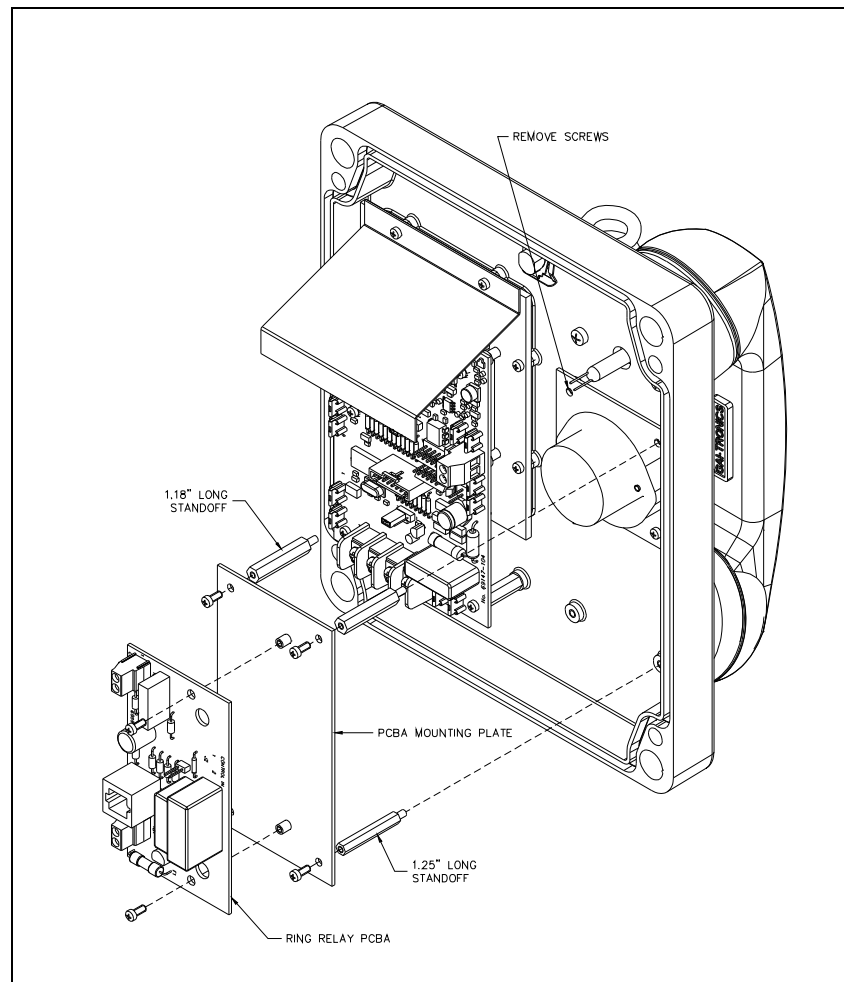

Figure 6. Model 246-001 and 256-001 Exploded View
3. Remove the two #4-40 screws installed above ringer. Replace with two (provided) #4-40 × 1.18-inch M/F standoffs (see Figure 6).
Note the orientation of mounting plate (see Figure 6).